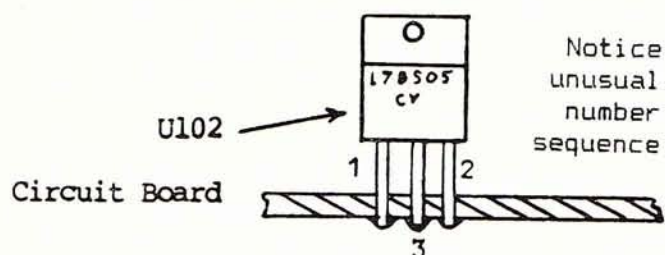

Figure 2
If, when you checked the secondary wired near the fuse, you found the 10-15 v.a.c. to be present you should skip the 110 v.a.c. test. Instead locate (IC) U102 which is attached to the black finned heat sink. It will look like Figure 2.